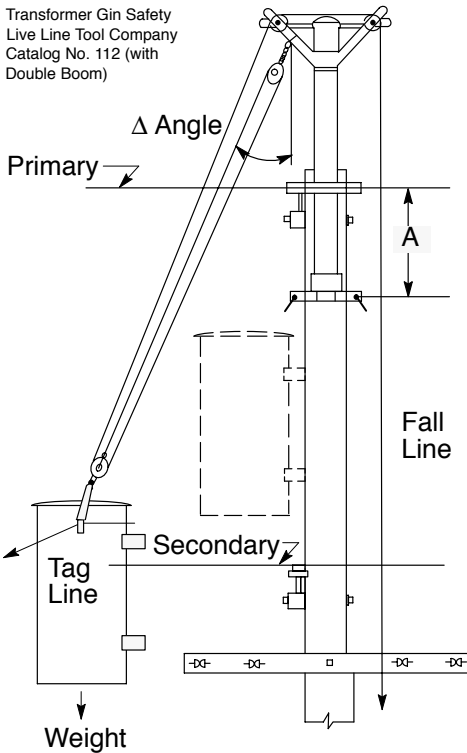

Figure 8-14
2. The gin illustrated in Figure 8-14 shows the transformer either bolted to a pole or mounted in the center or outside position on a hanger arm.